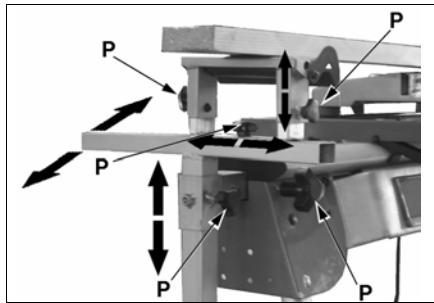

Fig. 24
- Figure 24 illustrates all the possible ways to adjust the two support systems by slackening the knobs (P).
- Once all the various components which make up the support system have been satisfactorily adjusted, make sure all the corresponding knobs (P) are securely tightened.